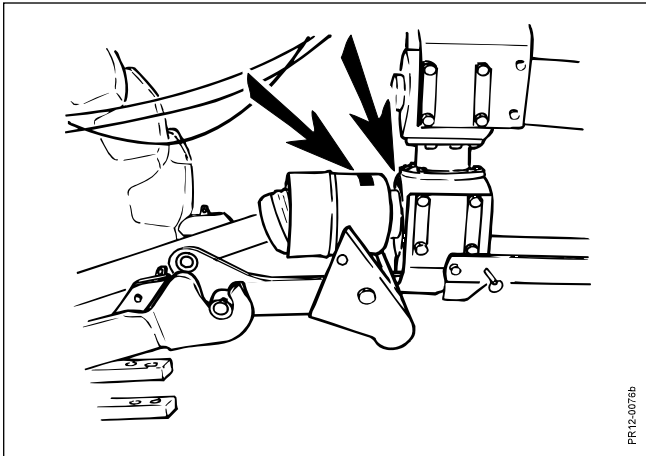

Fig. 2-12
Fig. 2-12 The machine is marked so that the actual gearing is shown clearly on the front part of the swivel gearbox and the protection guard at the PIC shaft (see the decal on the machine on page 13, pos. 12). If, for some reason, this decal is missing the gearing should be re-checked.